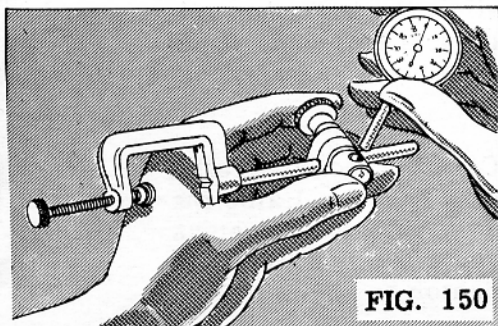

FIG. 150
12. Assemble the indicator, the gage-holding rod, the swivel or sleeve, and the clamp (Fig. 150).